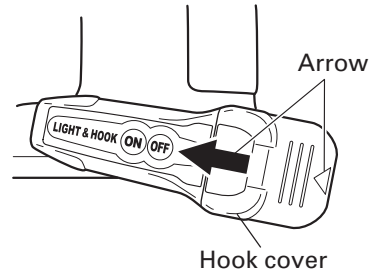

Fig. 13
Remove the hook cover by pushing in the direction of the arrow. (Fig. 13)
- (3) Align the indentation in the hook main body with the protuberance of the hook cover, press the hook cover in the direction opposite to that of the arrow shown in Fig. 13 and then tighten the screw.